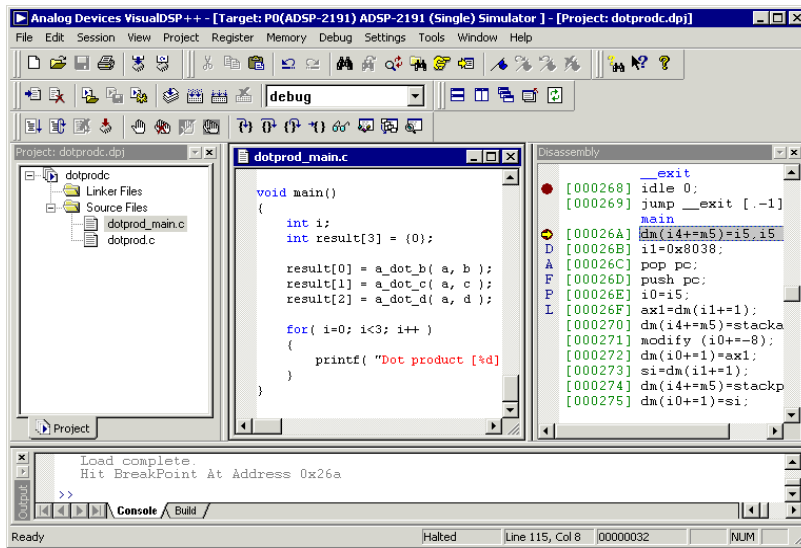

Figure 3-4. Disassembly, Editor, Output Windows: Load dotprod.dxe
VisualDSP++ automatically loads your project's executable file (dotprodc.dxe) and advances to the `main` function of your code (see Figure 3-4).
5. From the Settings menu, choose Breakpoints to view the breakpoints set in your program. VisualDSP++ displays the Breakpoints dialog box, shown in Figure 3-4.